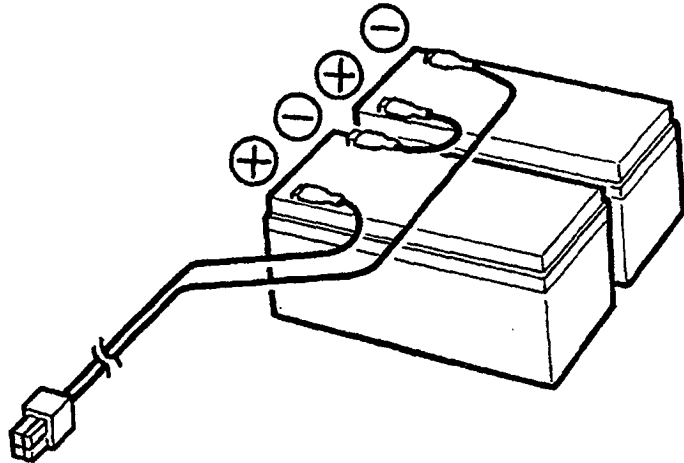

Figure 3-32 Connecting the Two PSF Built-In Batteries
1. Connect the two batteries in series. Refer to Figure 3-32 - Connecting the Two PSF Built-In Batteries.